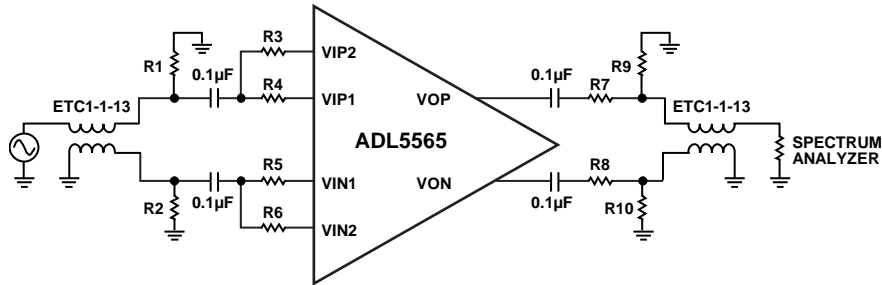

Figure 42. General-Purpose Characterization Circuit
**Table 12. Gain Setting and Input Termination Components for Figure 42**
**Table 13. Output Matching Network for Figure 42**